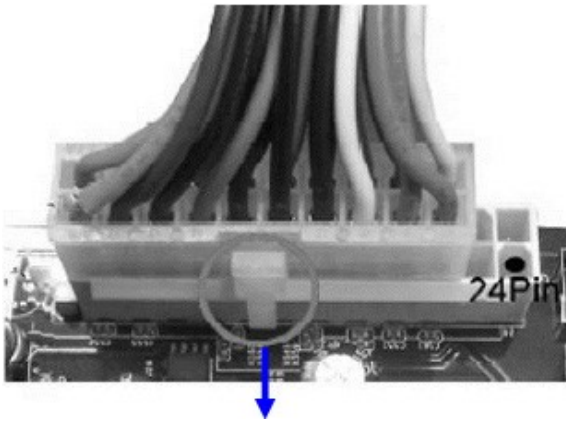

Figure 1: 20-pin power plug
- \*\* If you are using a 20-pin power plug, please refer to Figure1 for power supply connection. Power plug form power supply and power connectors from motherboard both adopt key design to avoid mistake installation. You can insert the power plug into the connector with ease only in the right direction. If the direction is wrong it is hard to fit in and if you make the connection by force if is possible.